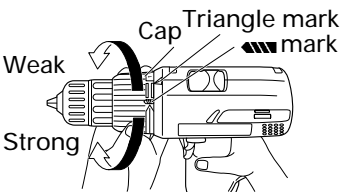

Fig. 9
5. Confirm the cap position (see Fig. 9)
(2) Tightening torque indication (See Fig. 9)
(3) Adjusting the tightening torque (See Fig. 9)